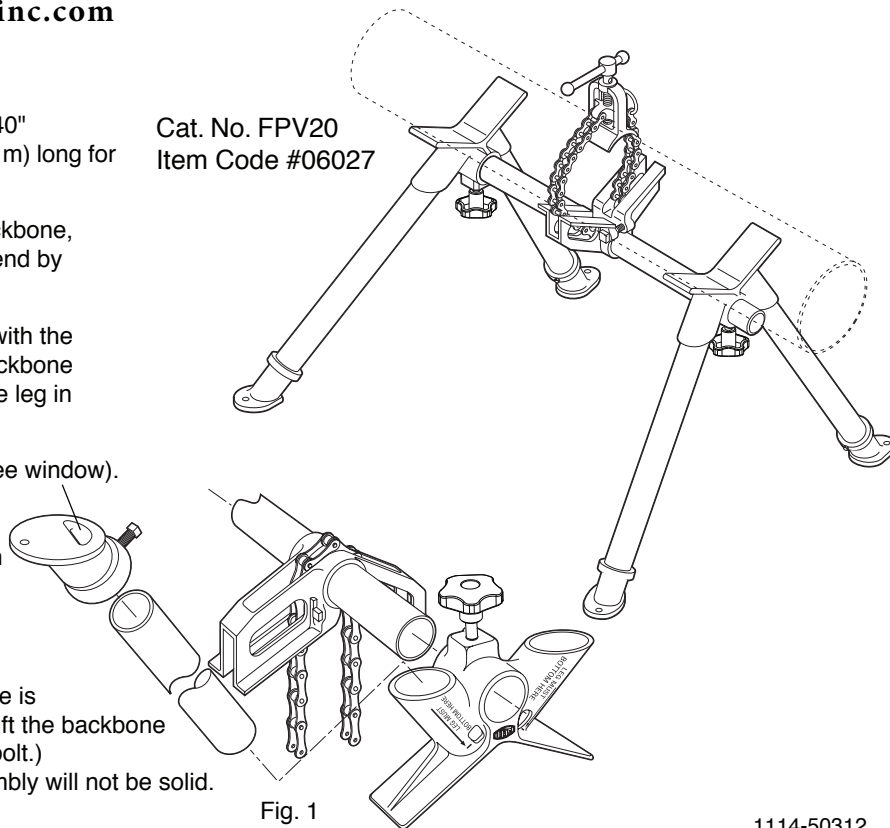

Fig. 1
4. Make sure that each pipe leg bottoms in the socket (see window). Tighten the threaded knob or bolt in each leg frame to clamp the entire assembly together. It is helpful to assemble this vise upside down with the V's resting on the floor; the two leg frames and the pipe clamp then automatically line up, Fig. 1.